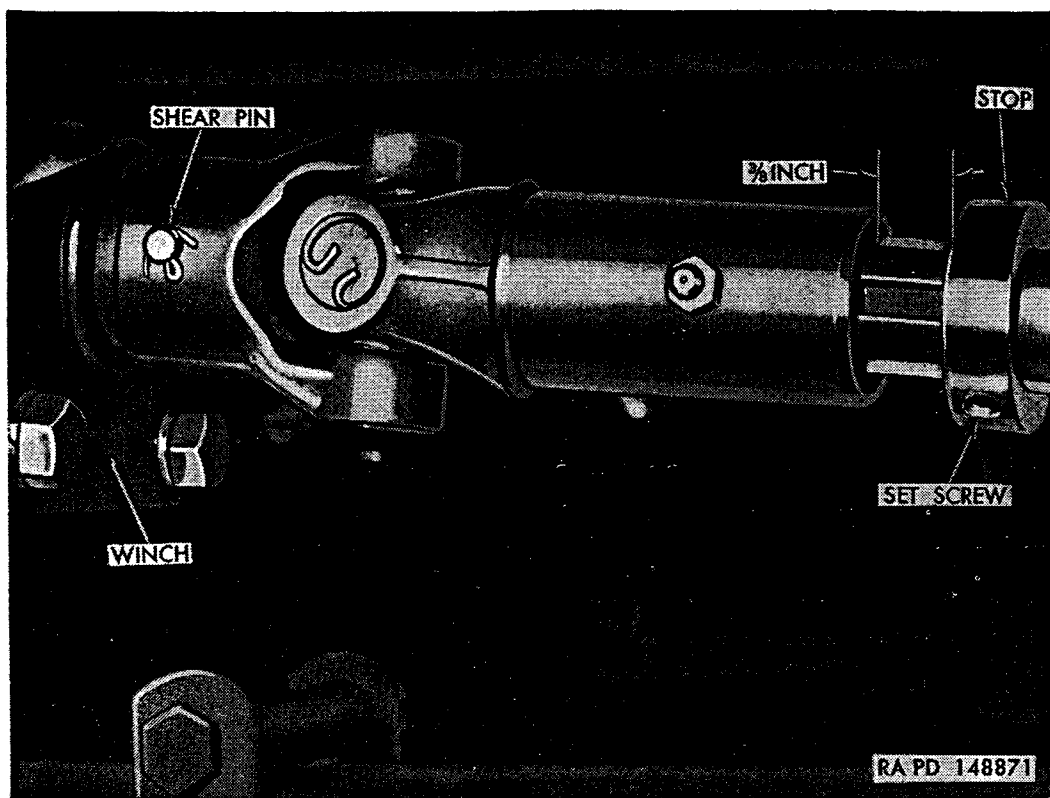

Figure 338. Shear pin installed.
(fig. 338)
- (1) Position pilot bearing assembly in pilot bearing bracket with lubrication fitting at bottom. Attach with four $\frac{1}{2}$ -20 x $\frac{17}{8}$ cap screws and $\frac{1}{2}$ -20 jam nuts; tighten jam nuts to 48 to 64 pound-feet torque. Position pilot bearing shield on the four cap screws; then install $\frac{1}{2}$ -20 safety nuts. Tighten nuts to 48 to 64 pound-feet torque.
- (2) Slide pilot bearing and bracket on front drive shaft with bracket toward front.
- (3) Place $\frac{1}{4}$ x 1 woodruff key in keyway of both front and rear drive shafts. With keyways in alinement, slide front and rear drive shafts into yokes of intermediate universal joint until taper groove pin holes are in alinement. Drive $\frac{5}{16}$ x 2 taper groove pin through each yoke and shaft.
- (4) Install rear universal joint over splines of rear shaft.
- (5) Install front universal joint over winch worm shaft, then install shear pin through joint yoke and shaft. Install $\frac{1}{16}$ x $\frac{1}{2}$ cotter pin at each end of shear pin. Bend cotter pins in place.
- (6) Guide front end of front shaft through cross member hole, then position stop on shaft. Insert front shaft into splines of front universal joint.
- (7) Push entire drive line assembly toward front until rear universal joint yoke can be installed on power-take-off shaft, alining key in shaft and universal joint yoke. Tighten $\frac{1}{2}$ -13 x $\frac{1}{2}$ hex-socket setscrew which secures joint yoke to power-take-off shaft.
- (8) Position pilot bearing bracket against front spring and torque rod bracket, then install two $\frac{1}{2}$ -20 x $1\frac{1}{4}$ cap screws and $\frac{1}{2}$ -20 nuts. Tighten nuts to 48 to 64 pound-feet torque.
- (9) Tighten two pilot bearing setscrews and install lock wire through heads of setscrews.
- (10) Position stop at front universal joint until three-eighths of an inch exists between collar and universal joint yoke as shown in figure 338. Tighten $\frac{3}{8}$ -16 x $\frac{1}{2}$ hex-socket setscrew.
- (11) Connect brake pull back spring to pilot bearing bracket.